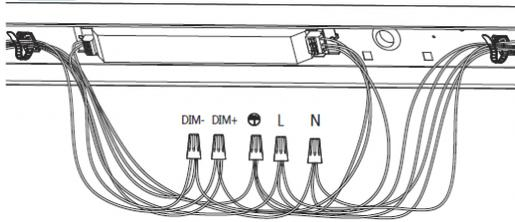

Fig. 21
10. Once wiring is completed, take wire harness and run it through the knockouts of the connecting fixture. Use self-adhesive cable ties to eliminate any tangles (Fig. 21).
13. Once wiring is completed, take wire harness and run it through the knockouts of the connecting fixture. Use self-adhesive cable ties to eliminate any tangles (Fig. 21).